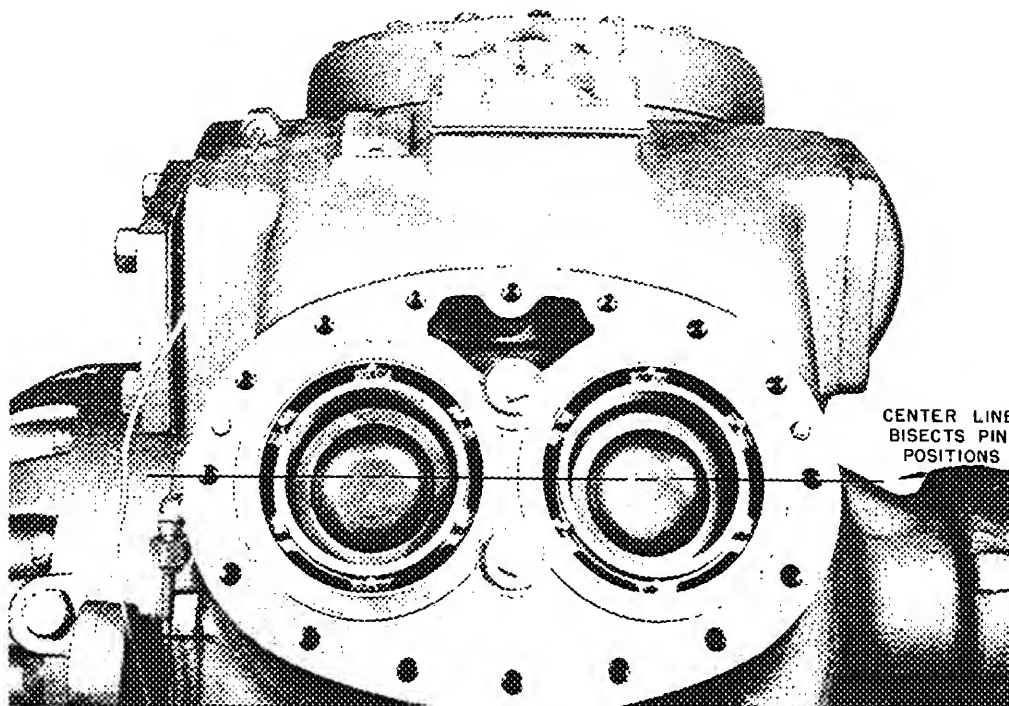

FIG. 22 - POSITION OF CYLINDER SLEEVES
6. Rotate the sleeve so that any two valve lifter pin holes lie equal distances from the longitudinal axis of the compressor as shown in Fig. 22. In this position the valve lifter pins
CAUTION: Never operate the compressor with a valve plate off unless the cylinder sleeves are fastened in place. Cylinder sleeves can be held in place by capscrews and washers as shown in Fig. 22. The capscrews are screwed into the tapped holes normally used to hold the valve plate in place. Use plate washers large enough to extend well over the faces of both sleeves or make up steel plates for this purpose. Two washers or plates should be used on each cylinder deck.